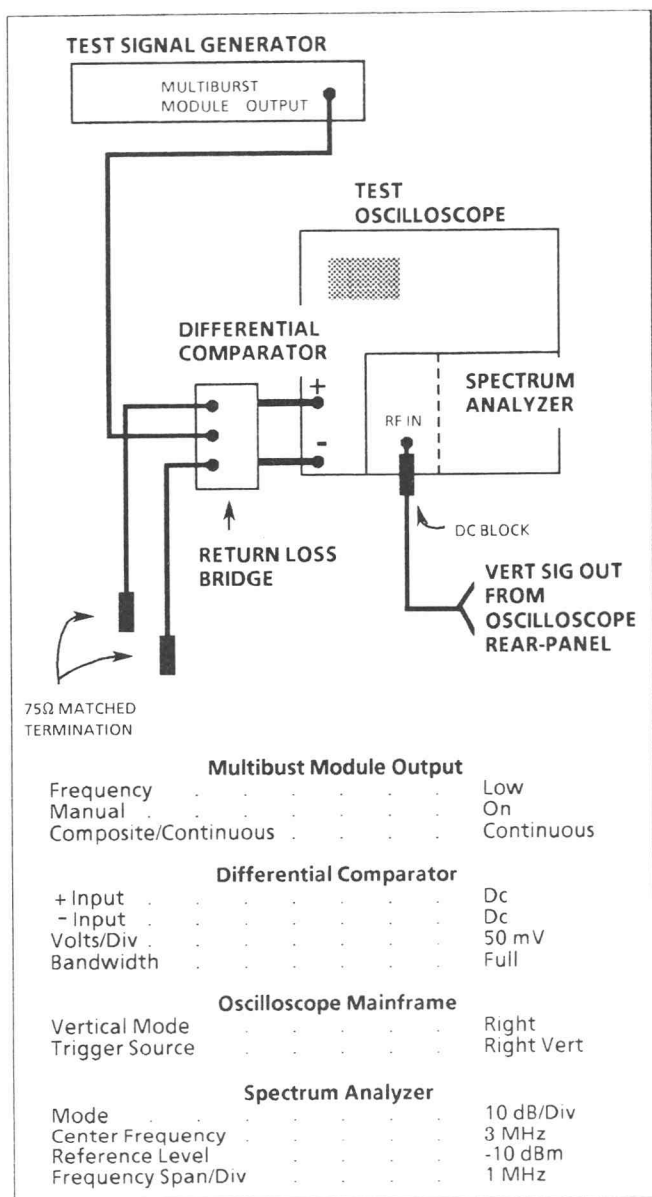

Fig. 4-37. Setup for checking return loss.
- i. Connect and set the test equipment as shown in Fig. 4-37.